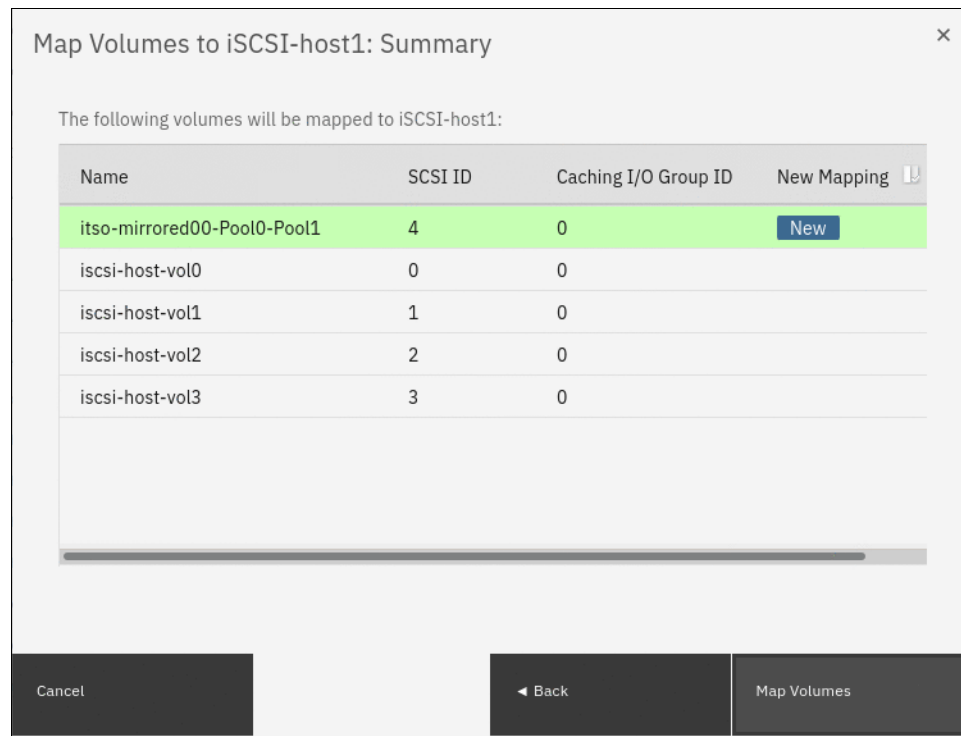

Figure 6-60 Mapping a volume to a host: Summary
3. A summary window opens and shows all the volume mappings for the selected host. The new mapping is highlighted, as shown in Figure 6-60. Review the future configuration state and click **Map Volumes** to map the volume.